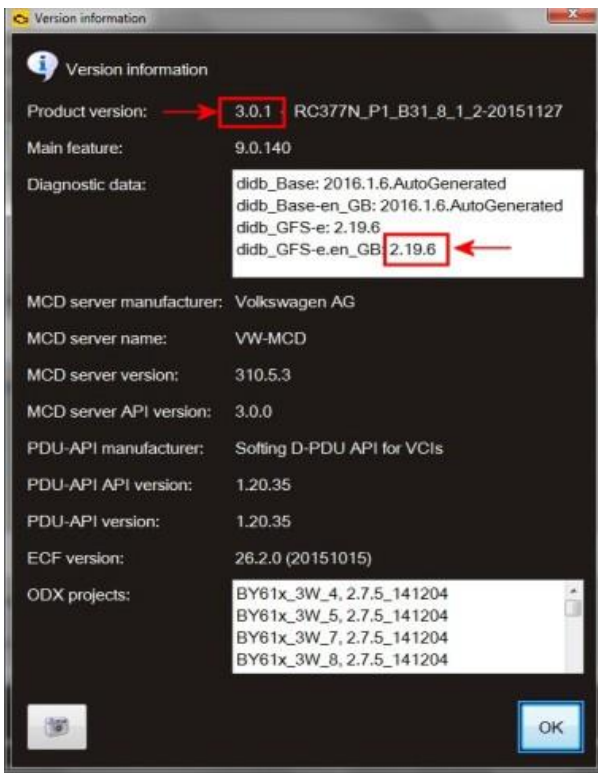

Figure 1
1. Check software on Bentley diagnostic tool, must be 3.0.1 Product version or higher and Diagnostic data: 2.19.6 or higher (see Figure 1)